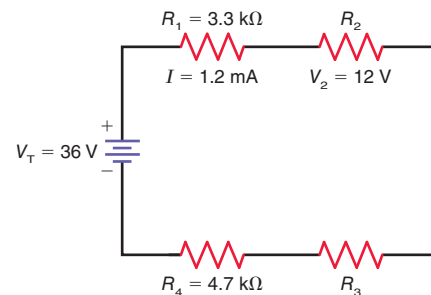

Figure 5-33
5.27 In Fig. 5-33, solve for R_T , V_3 , V_4 , R_3 , P_T , P_1 , P_2 , P_3 , and P_4 .